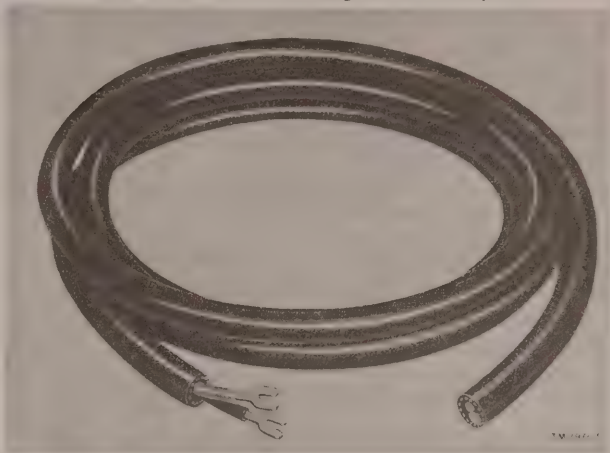

Figure 15. Battery cable.
a. *Electrical Special Purpose Cable Assembly CX-2342/U and Electrical Power Cable Assembly CX-2343/U (Battery Cables).* The battery cable (fig. 15) used with the radio set varies in characteristics, depending on the type of vehicle in which it is installed and the voltage of the vehicular electrical system. In a jeep installation, for instance, the cable may be shorter than in a sedan or truck installation. The same sized wire is used with both the 6- and 12-volt systems. The 24-volt cables have thinner wires because they carry less current. Each battery cable is made up of two heavy-current insulated wires encased in a heavy-duty rubber coating. The ends of the wires that connect to the equipment cabinet have eye-type lugs soldered to them. The 6- and 12-volt systems